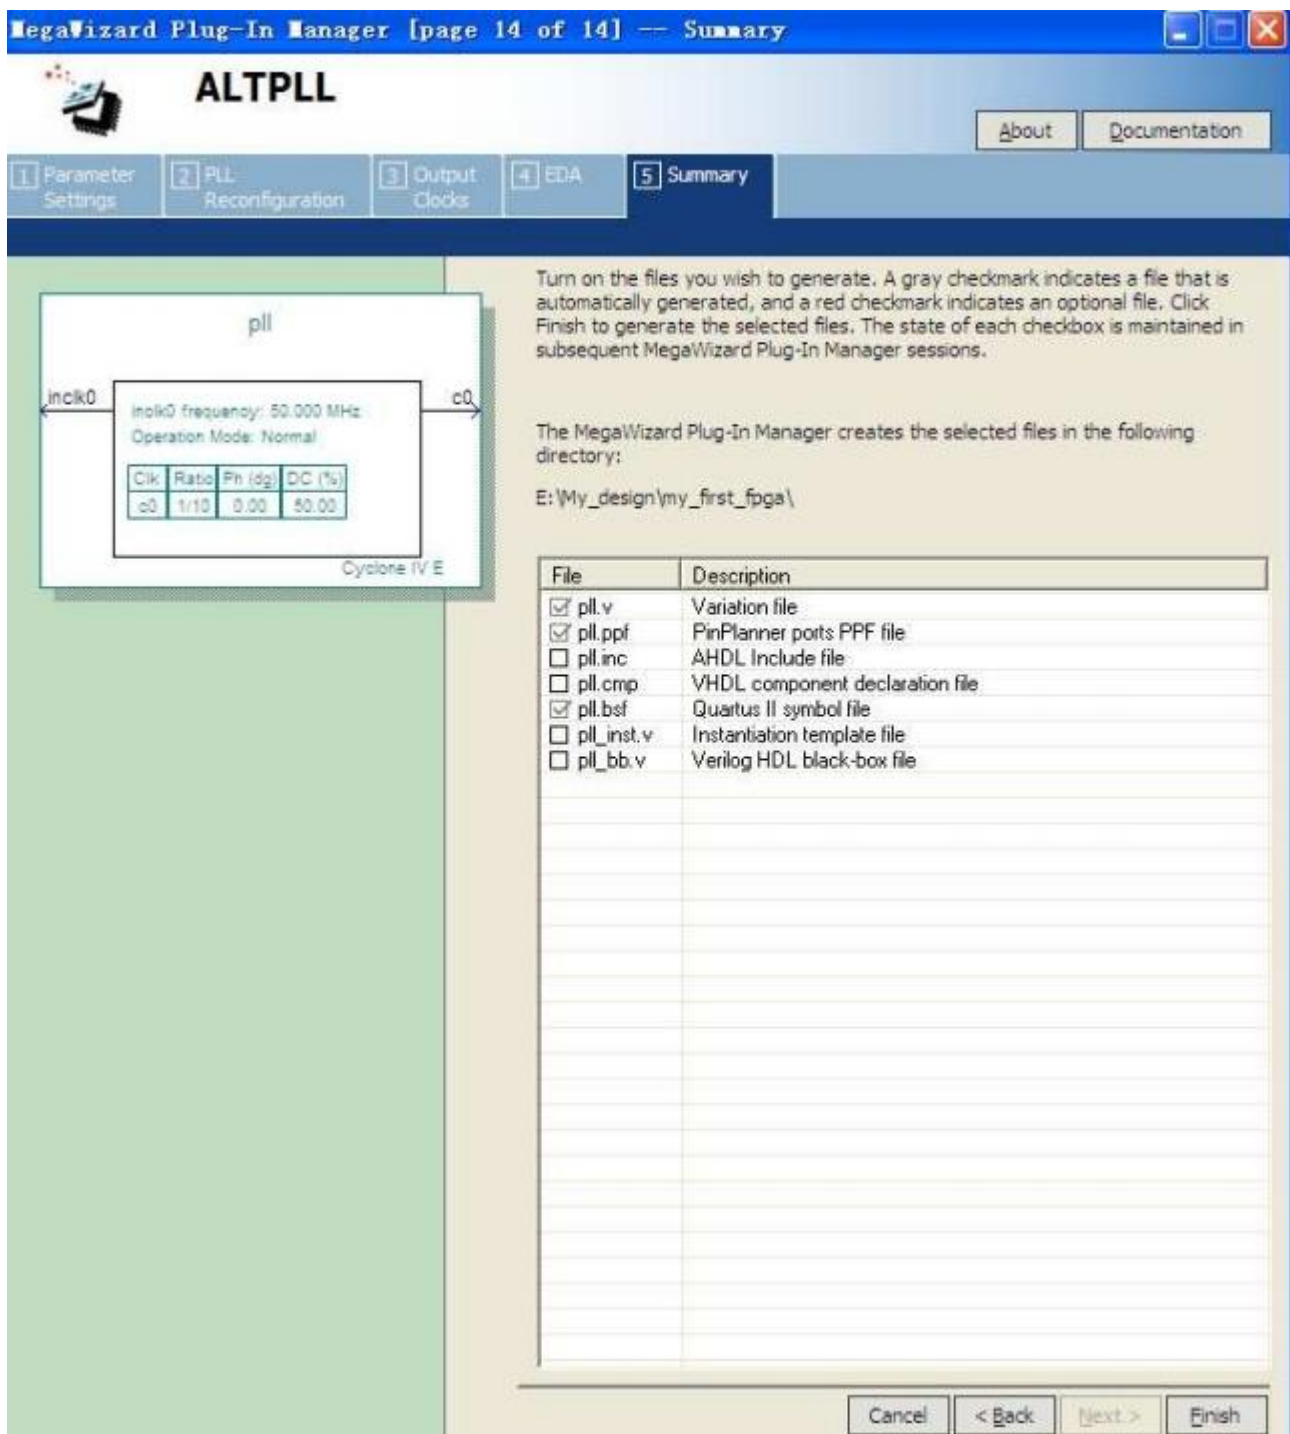

Figure 3-13 Wizard-Created Files
10. The wizard displays a summary of the files it creates (see Figure 3-13). Click Finish again.